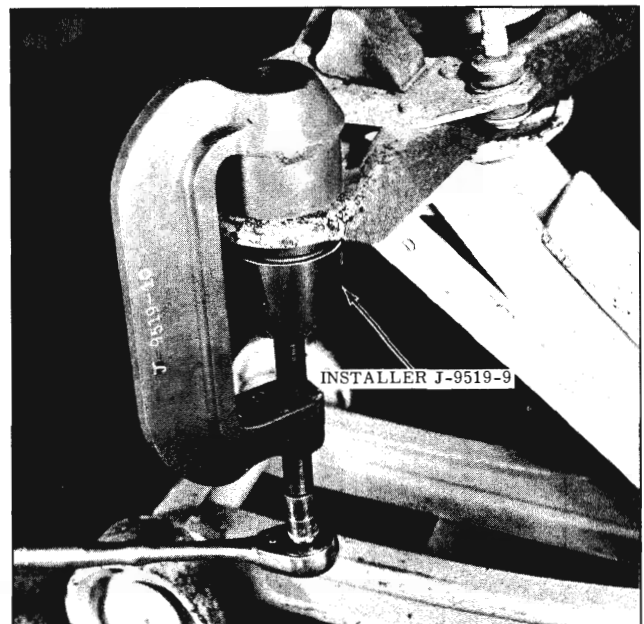

Fig. 5-19 Installing Lower Ball Joint
- Install new ball joint assembly as shown in Fig. 5-19.